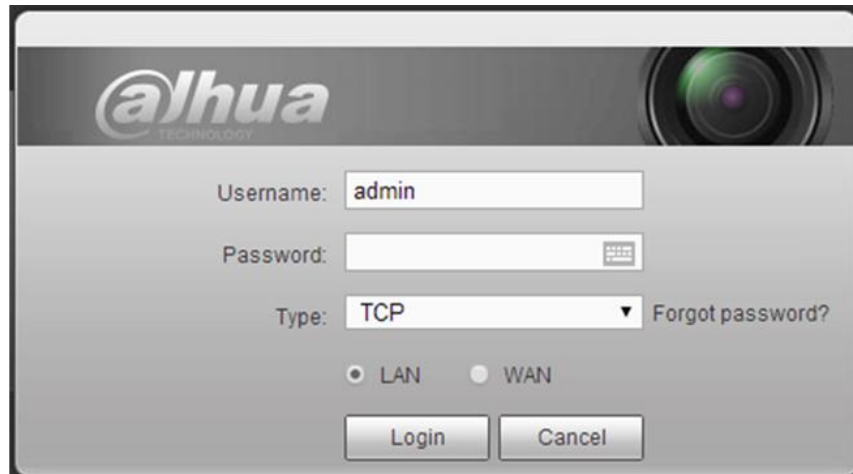

Figure 5-5
After installation, the interface is shown as below. See Figure 5-5.
Step 1 Go to the device login interface. See Figure 5-5.